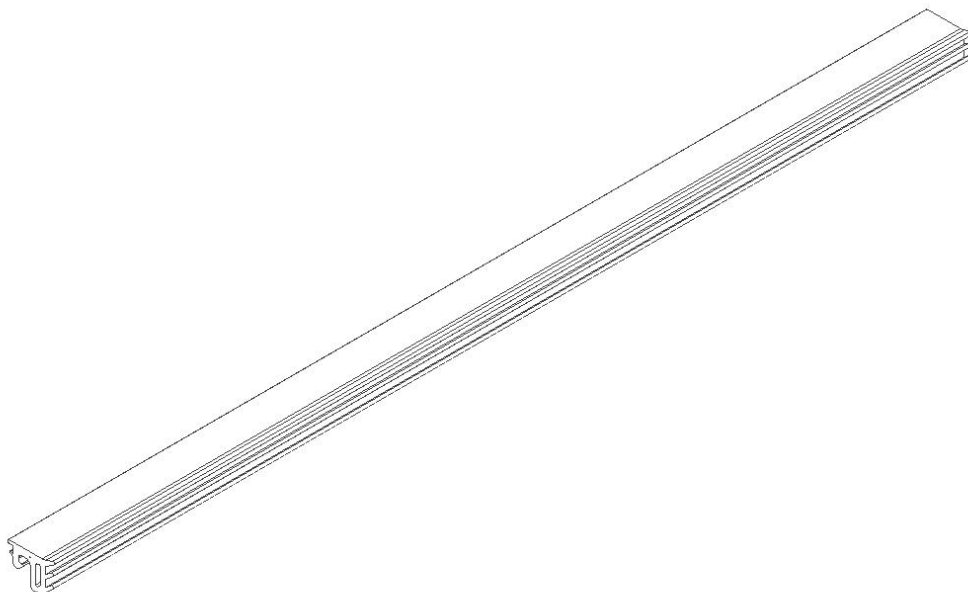

Figure 8: When cutting gaskets, add 1/16" to 1/8" per foot of daylight opening for shrinkage.
- When cutting gaskets, add 1/16" to 1/8" per foot of daylight opening for shrinkage (an eighth of an inch per foot is approximately 1%) as shown in Figure 8. Open, unsealed gasket joints are a potential source of leakage and water damage to interior finishes.